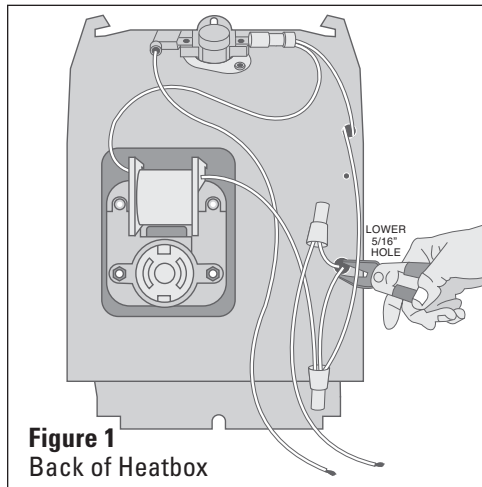

Figure 1
- C. Cut reset wires coming out of lower 5/16" pass through hole on back of heatbox. (See Figure 1)
11. Feed wires back through 5/16" hole of motor and element assembly, making sure to take out all slack. (See Figure 1)